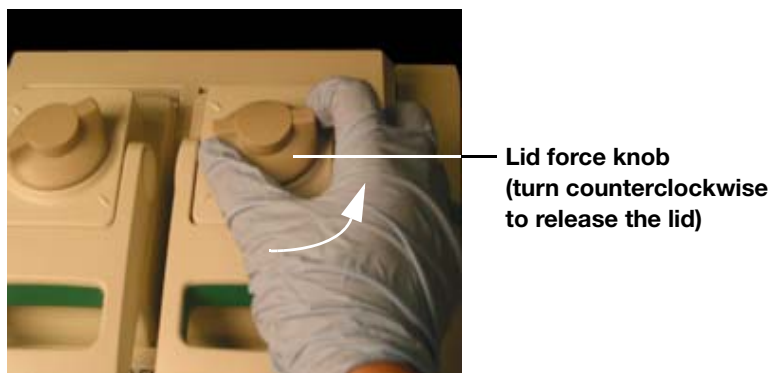

Figure 6. Turn the lid force knob counterclockwise to release the inner lid.
1. Turn the lid force knob counterclockwise to release the inner lid (Figure 6).